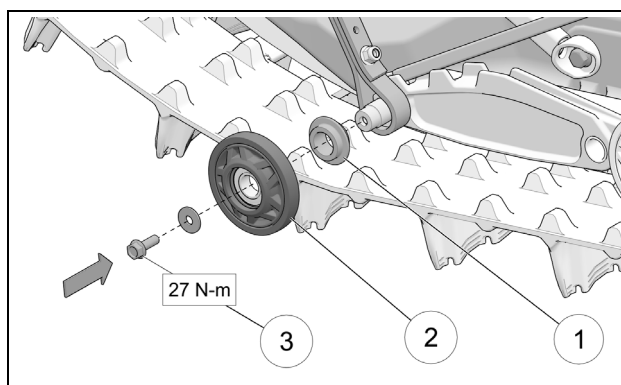

Figure 14
- Re-install spacer (1) and wheel (2) on shaft. Tighten bolt (3) to 27 N-m (20 lb-ft) of torque. See Figure 14.
**NOTE:** Be careful to place the spacer's (1) large diameter against the limiter strap.